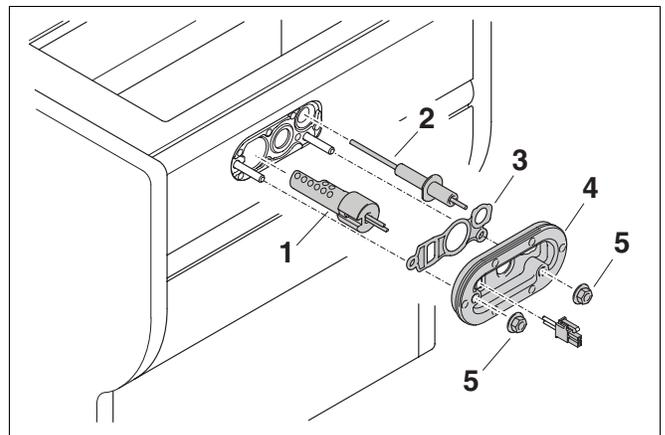

Fig. 88 Replacing the glow ignitor / ionization electrode
- Replace the ionization electrode and glow ignitor, if required (fig. 88).